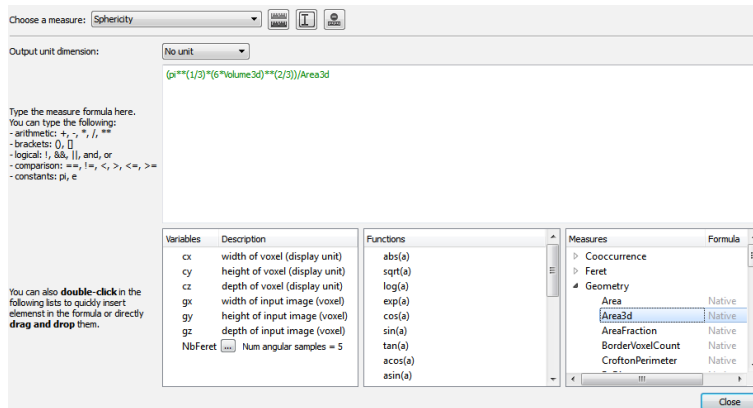

Figure 6.63: Measure edition
- Enter the sphericity formula in the dedicated field of the panel (see Figure 6.63).